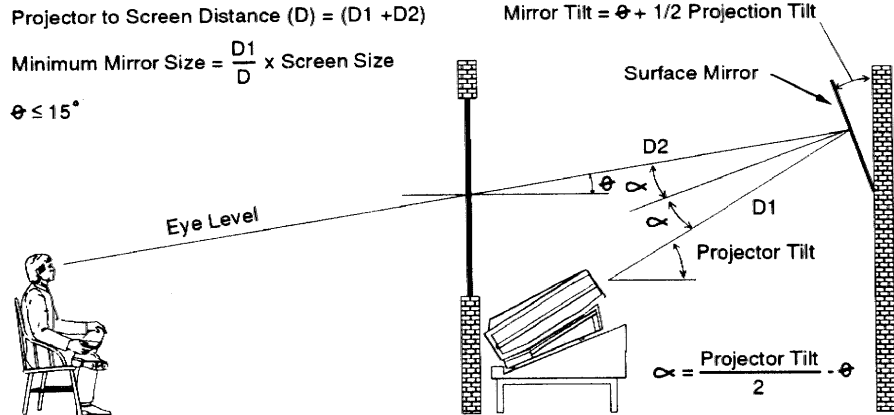

Figure 2-16. *Folded Optics*
In situations where the space behind the projector is limited, a mirror may be used to fold the optical path as illustrated in Figure 2-16. If a diffused screen is used, the projection angle  $\theta$  should be less than 15°. If an optical screen is used, the optical path between the mirror and the screen should be perpendicular to the screen. Much attention must be given to the positioning of the projector and the mirror. This can be quite difficult for installers unfamiliar with this type of installation. It is recommended that your dealer or an experienced installer perform the installation.
*Note: When using a mirror as shown in Figure 2-16, the calculated projector-to-screen distance (D) is the summation of D1 and D2.*